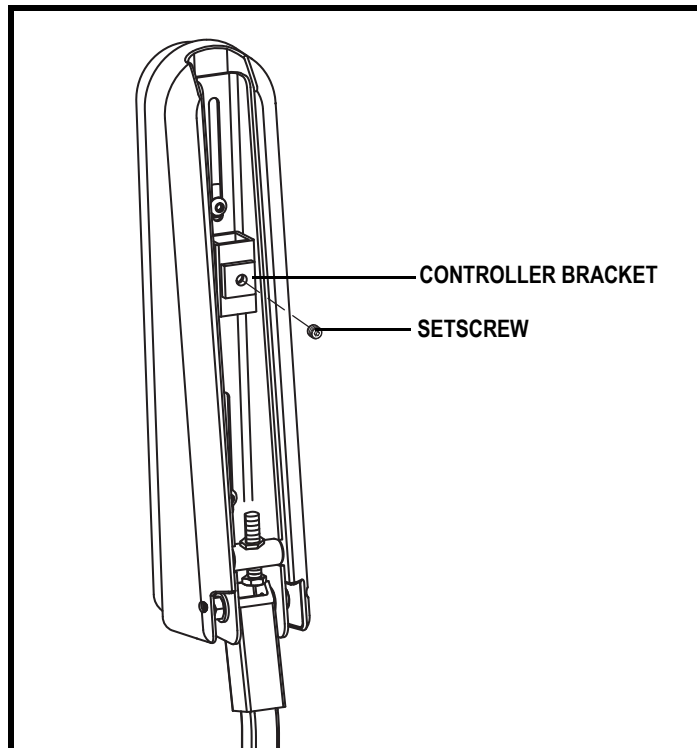

Figure 18. Underside of Armrest
2. Loosen the setscrew on the controller bracket. See **figure 18**.